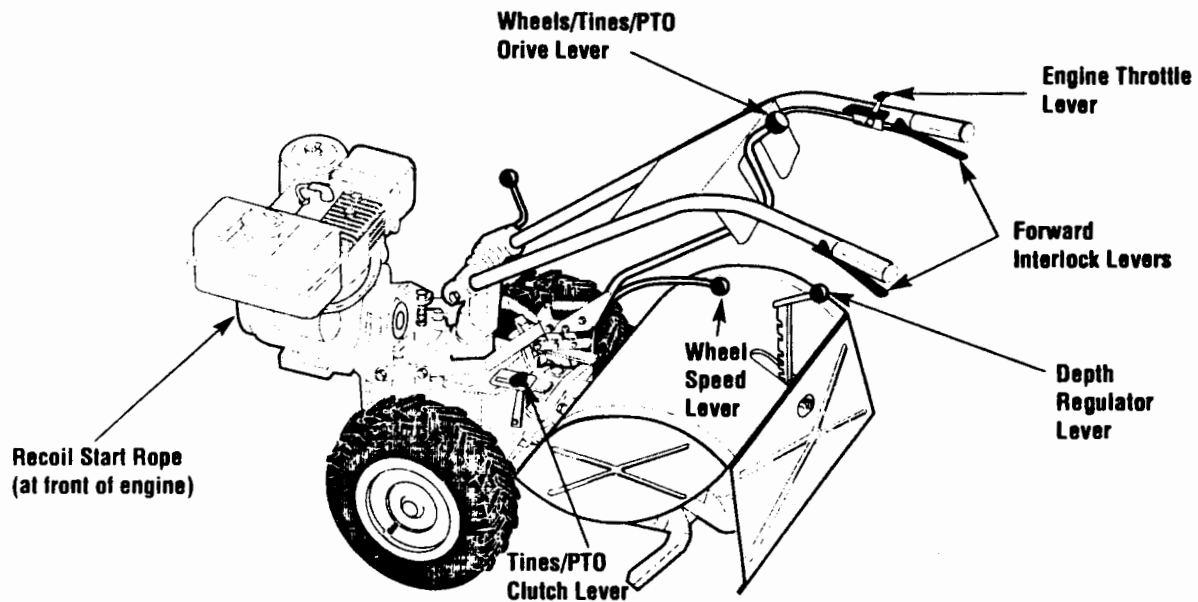

Figure 4-2: Tiller and engine controls.
4. Shift the Wheels/Tines/PTO Drive lever (Figure 4-2) into NEUTRAL position. See Section 3, *Controls* for more information on this lever.
1. With the engine off, place the **Wheels/Tines/PTO Drive Lever** (Figure 4-2) in the **NEUTRAL** position. If in the **FORWARD** position, tap the lever sharply upward, it should automatically move into **NEUTRAL** position.
2. Put the **Depth Regulator Lever** in the **Travel** position (lever all the way down) so that the tines are off the ground. To do this, lift up on the handlebars, pull the lever (Figure 4-2) back, and push it down all the way to the top detent (notched) position.
3. Move the **Wheel Speed Lever** (Figure 4-2) to either the **SLOW** or **FAST** position. Be sure to roll the wheels while shifting the lever until the wheels engage.
4. Move the **Tines/PTO Clutch Lever** into **DISENGAGE** position (Figure 4-2).
7. Move engine throttle lever (Figure 4-2) away from **STOP**.
5. Warm up the transmission gear oil as follows: With engine running, move Wheel Speed Lever (Figure 4-2) to FREEWHEEL (then block wheels so they can't roll), put Tines/PTO Clutch Lever into DISENGAGE, then squeeze one of the Forward Interlock Levers and shift the Wheels/Tines/PTO Drive Lever to FORWARD.
1. Shift the Tines/Wheels/PTO Drive Lever (Figure 4-2) into NEUTRAL and move the Wheel Speed Lever to the SLOW position.
2. Move Tines/PTO Clutch Lever (Figure 4-2) into DISENGAGE position.
1. At the end of a row, move the Wheels/Tines/PTO Drive Lever (Figure 4-2) to NEUTRAL position and reduce the engine speed.
2. Move the Tines/PTO Clutch Lever (Figure 4-2) into the DISENGAGE position.